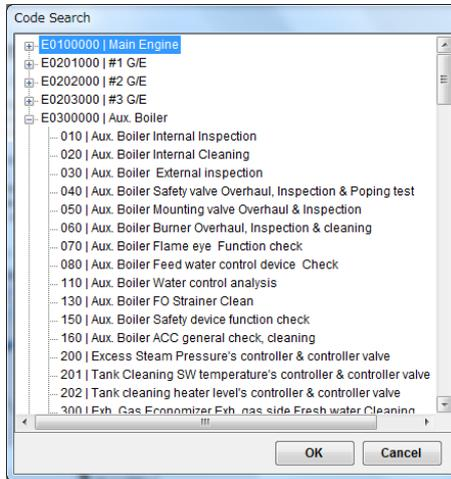

Fig.14-2 Code Search Screen
- (2) Modify ship list data, then select [Save] button (Fig. 14-2).